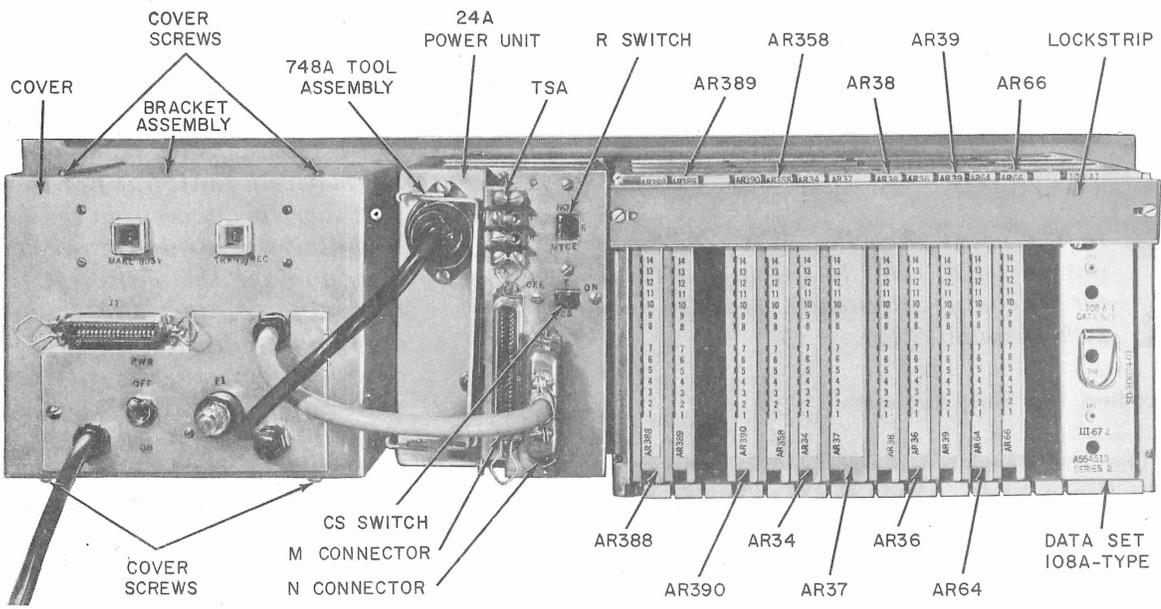

Fig. 3—Data Auxiliary Sets 820B5 and 806C1—Locations of Circuit Packs and Components
2.05 Verify that the proper circuit packs (CP) are installed in DAS 820B5 (Fig. 3) and that the R and CS switches are positioned properly according to the service order and/or worksheet.